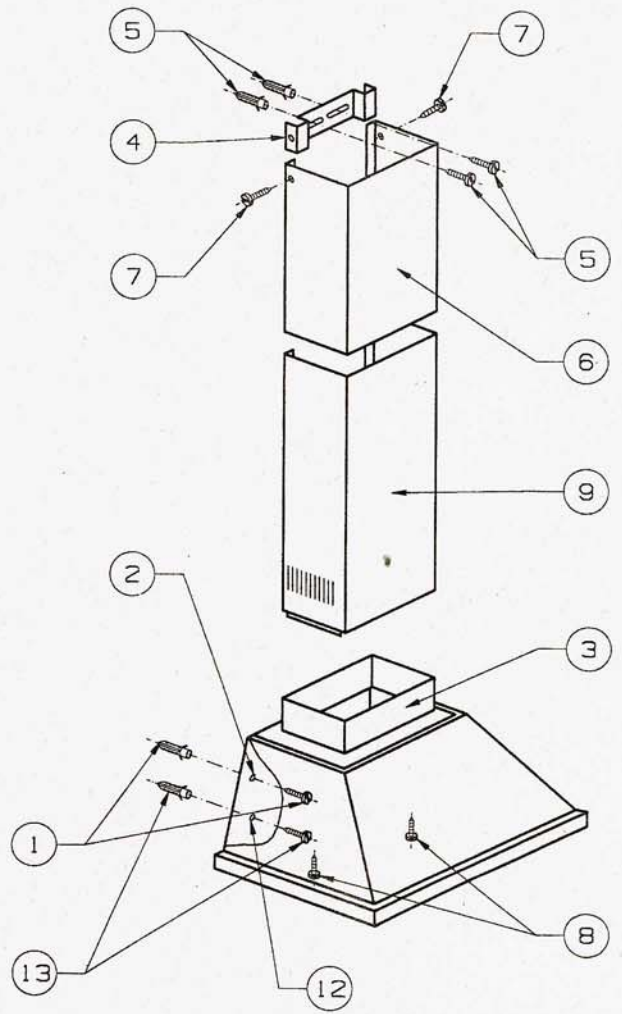

Fig. 2
- 3) Hang the hood introducing the screws head (1) by the holes (2 Fig. 2).
- 4) Place the inferior screws and screw them (13 Fig. 2).
- 1) Using plugs and screws fix (5 Fig. 2) the support (4 Fig. 2) to the wall at the correct height in relation to the cooker.
- 2) Mount the short length of chimney (6 Fig. 2) onto the support (4 Fig. 2).
- 3) Locate the long length of chimney (9 Fig. 2) onto the short length, slightly opening the sides.
- 4) Fix the chimney to the hood with the 2 screws (8 Fig. 2) working from the inside.